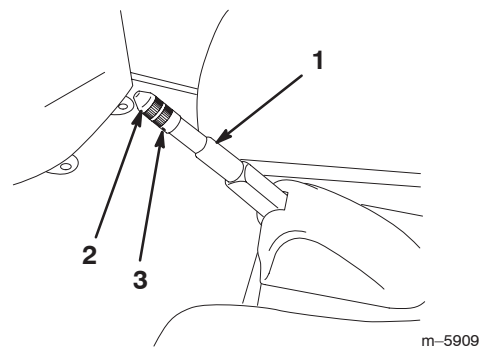

Figure 33
- Loosen the set screw securing the knob to the parking brake lever (Fig. 33).